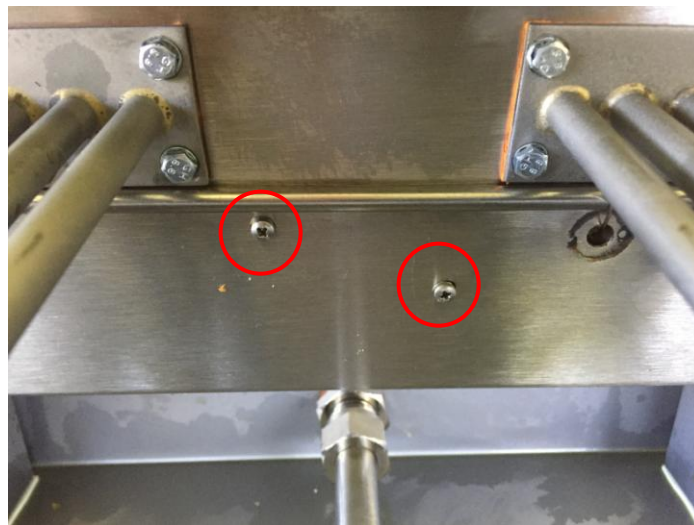

Figure 1
1. Lift up the element head & remove the 2x bracket retaining screws located on the bottom of the element head as shown in figure 1.
6. Lift the element head & secure tilt switch bracket using the 2x screws as shown in Figure 1.